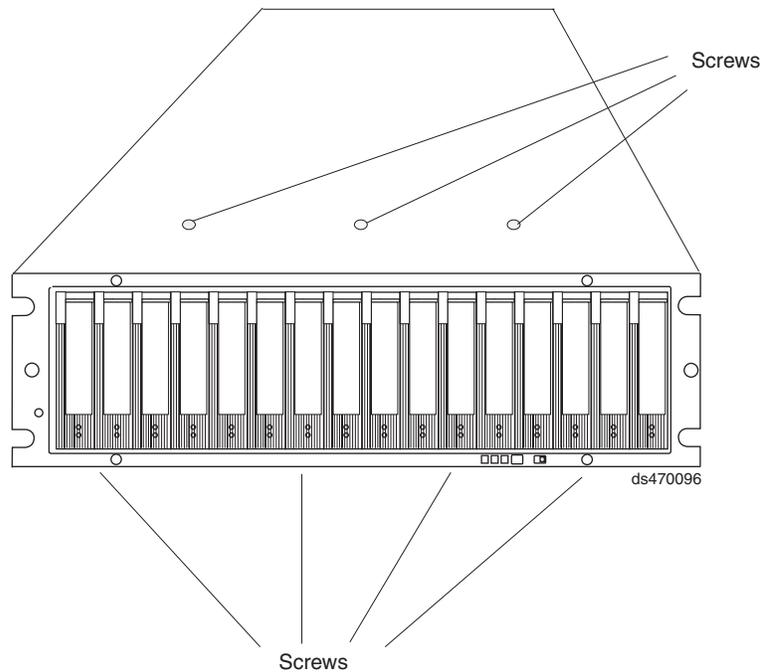

Figure 111. Screws holding the top and bottom sides of the chassis to the cage frame
13. Pull the chassis outward from the front of the rack and remove from the rack. Place it on a level surface. Look for a row of three Phillips screws on top of the chassis and a row of four Phillips screws on the bottom of the chassis, as shown in Figure 111 on page 173. Remove the seven Phillips screws using the #1 Phillips screw driver. Save these screws.
18. Install the seven Phillips screws (three on top and four on bottom) that hold the front cage frame to the EXP810 chassis that you removed in step 13 on page 172, as shown in Figure 111.